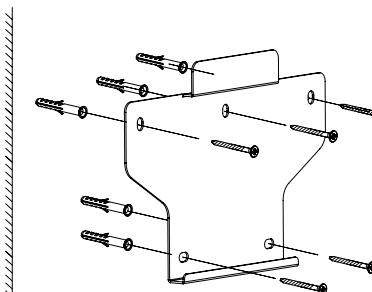

Figure 4-6 Fix the wall bracket
- ③ Insert the expansion tubes into the holes and tighten them, then fix the bracket onto the wall with expansion screws by using a cross screwdriver, as shown in Figure 4-6: